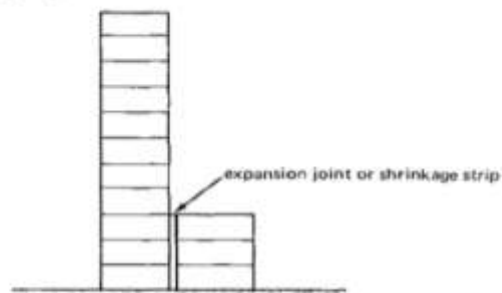

Figure 4 : Joints related to shapes of Building
2. Expansion joints may be necessary at the junction of tall and short buildings (Fig.4) to avoid distress due to differential settlements